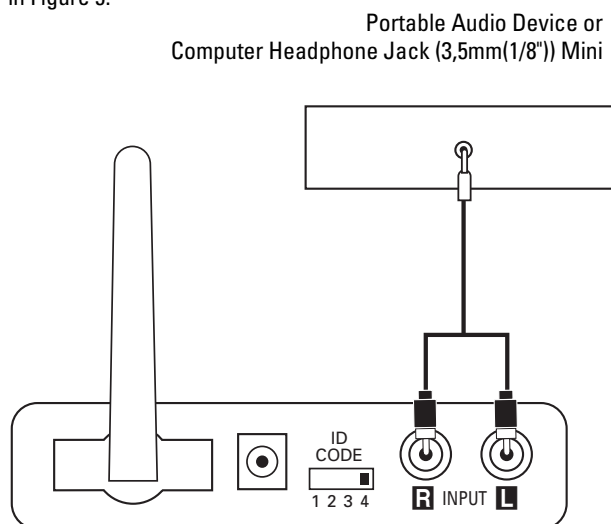

Figure 5.
Step 1. Connect the RCA – mini-jack cable (included) to the preamp out, line out or headphone 3,5mm (1/8-inch) output of your portable audio player and the inputs on the transmitter module ⑭, as shown in Figure 5.